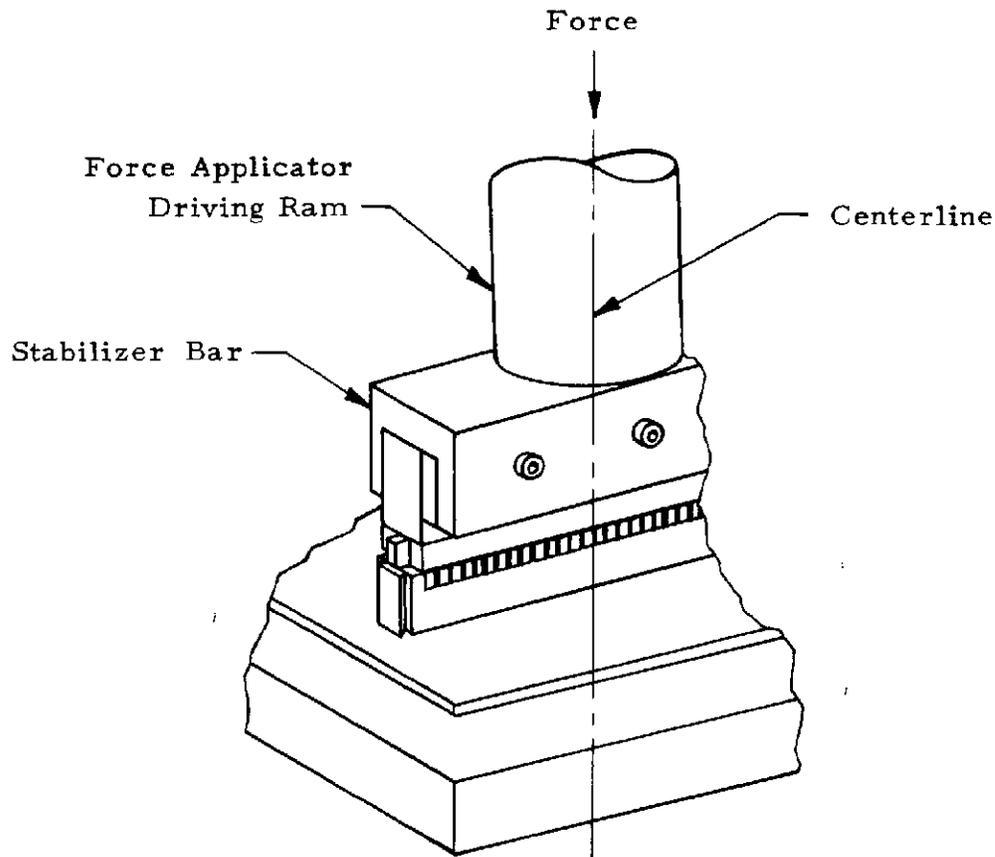

Figure 5
- G. Apply force to stabilizer bar of applicator, as indicated in Figure 5, until connector bottoms on the printed circuit board. Force applicator shall be capable of providing a force of 50 pounds per contact.